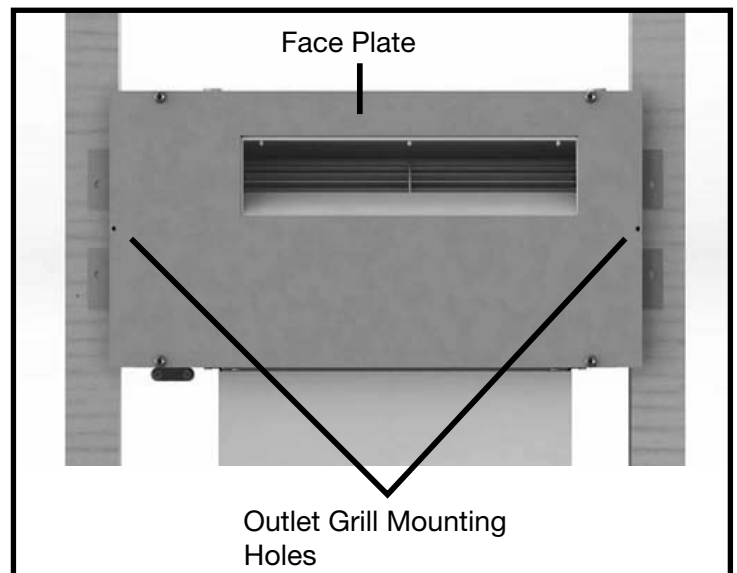

Figure 27: Grill mounting holes.
10. Re-install the Face Plate (Figure 27) and then attach the Outlet grill(s) over the outlet(s) Face Plate using the screws provided by aligning the screws for the outlet grill with the holes in the casing face plate.